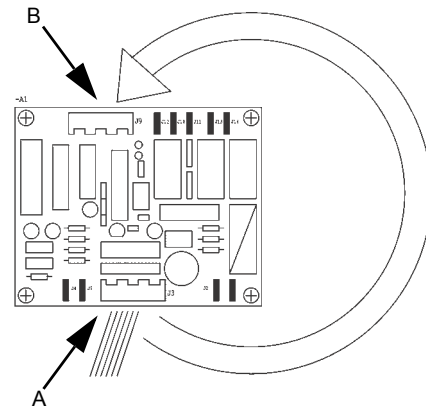

Fig. 5 Electronic circuit board
2. Remove the control connector from its original position, see fig. 5, pos. A, and insert the connector in the emergency position, see fig. 5, pos. B.